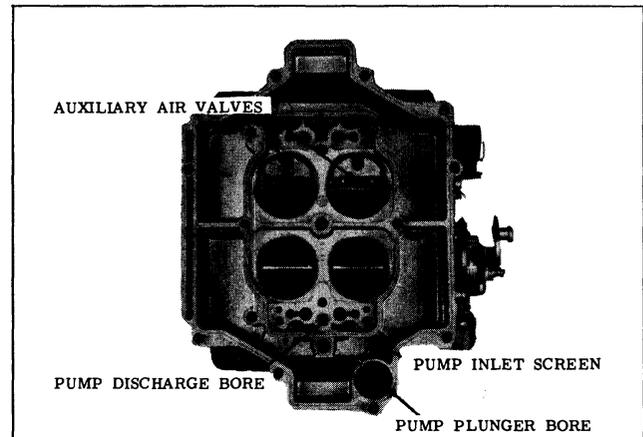

Fig. 8-98 Pump Inlet Screen
8. If necessary to clean or replace the small screen in the bottom of the fuel inlet cylinder, remove retainer ring and screen. (See Fig. 8-98)